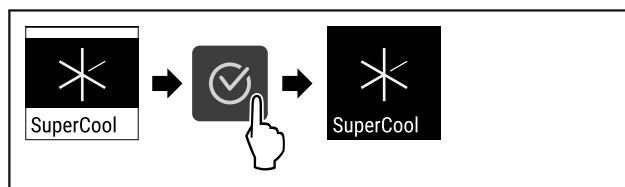

Fig. 74
- Complete steps (see Fig. 74) .